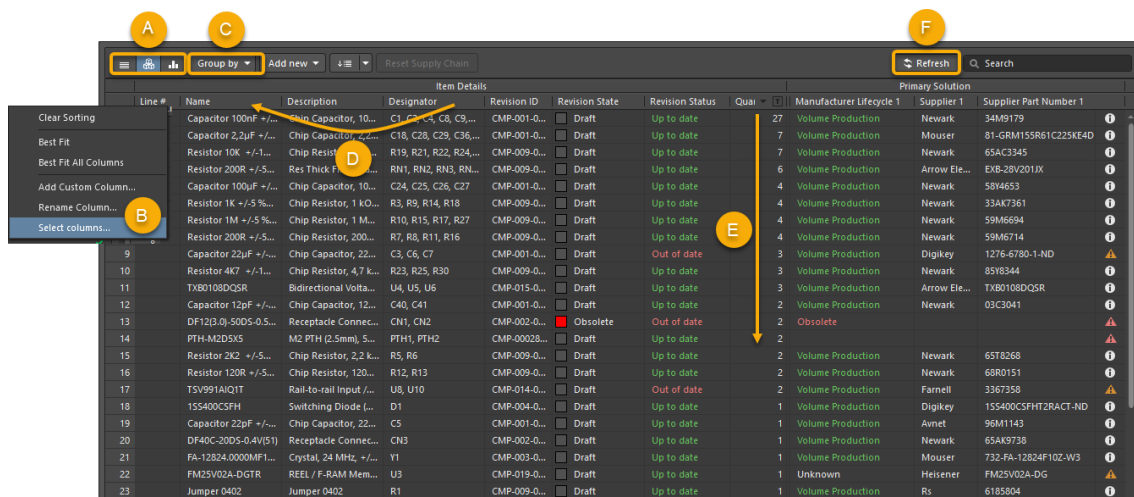

Figure 3. ActiveBOM - GUI Overview
12. You can configure the ActiveBOM view to suite specific circumstances, as seen in Figure 3.